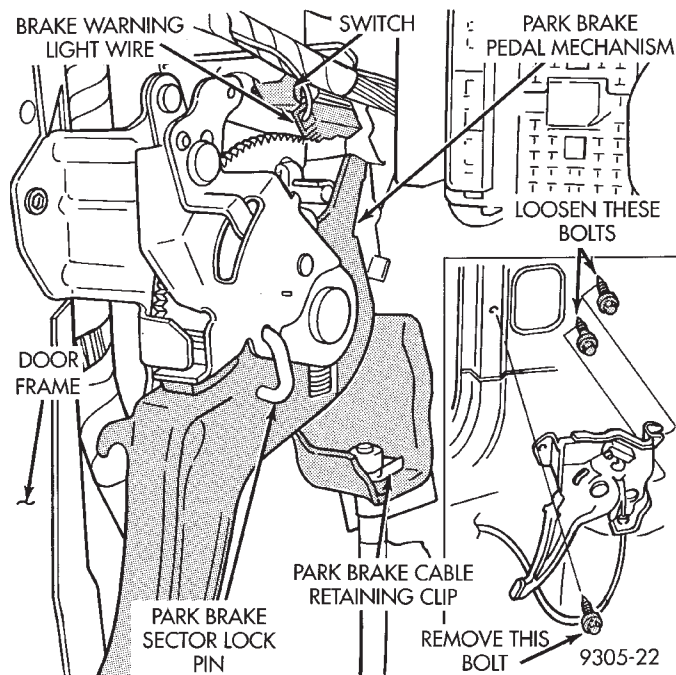

Fig. 17 Park Brake Mechanism Mounting
(5) Remove the bolt (Fig. 17) attaching park brake pedal assembly to left front door frame. Loosen but do not remove the 2 bolts (Fig. 17) attaching park brake pedal assembly to cowl panel. Unplug the brake warning light connector from switch on park brake pedal assembly. Remove park brake pedal mechanism and front park brake cable as an assembly.